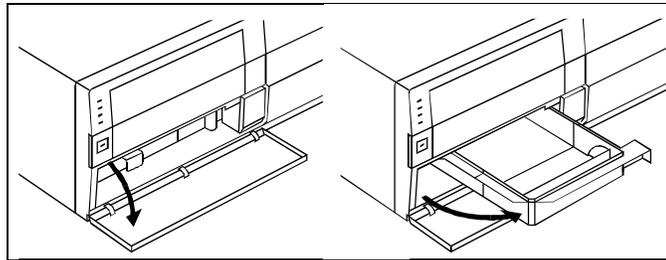

Figure 6-40. Opening the Paper Cassette
1. Open the cassette door by pulling the PULL-OPEN tab, then swing out the paper cassette (Figure 6-40).